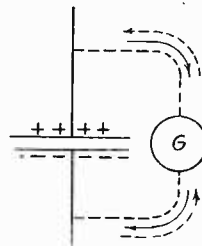

Fig. 16.
It will be remembered there were more electrons stored on one plate of the condenser than on the other. Consequently we could mark the two plates of the condenser in the same way as the terminals of the battery, that is (plus) and (minus). Now suppose, instead of short-circuiting the condenser by a mere piece of wire, we had connected in this wire another extremely sensitive instrument for not only detecting a flow of current, but which could also indicate which way the current was flowing. (See arrows, Fig. 16.) At the instant the path between the two plates is completed the electrons rush
X If you will remember, we stated in Lesson No. 1 that a flow of electrons is the same as a flow of current, and the direction in which the electrons flow determines the direction of the current. So we have in Fig. 16, a rapidly changing current, first flowing in one direction and then in another, continually growing less and less. This is a true Radio current, the *oscillating current* we spoke of in the first lesson. Each reversal of the current is called an *oscillation*. These reversals, or oscillations, take place very rapidly, each one requiring perhaps only a millionth of a second. The reason they finally die away is because their energy is gradually used up as they travel back and forth, as there is no battery or generator in the circuit of Fig. 16 which can supply it with energy to take the place of that consumed.
10. Why do the oscillations finally die out in the discharge of the condenser in Fig. 16?